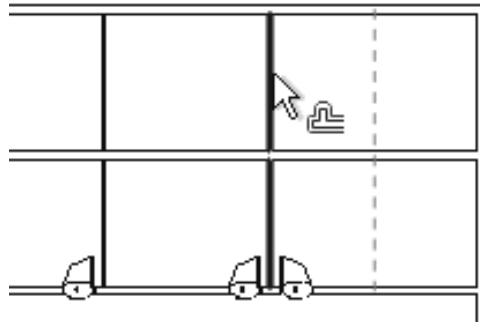

Figure 2-72
- With **Offset** still active, change the *Offset* to **10'-0"** and offset the last vertical interior wall to the right, as shown in Figure 2-72.